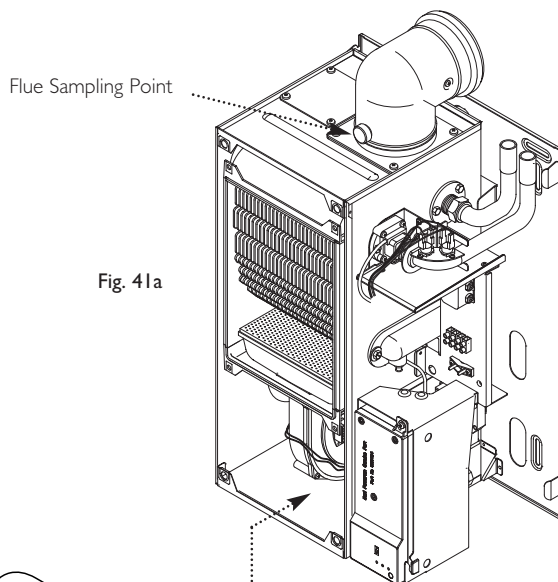

Fig. 41a
11. Check CO/CO² ratio and CO² level at the flue sampling point (Fig. 41a) is as quoted in Section 4.0 Technical Data.